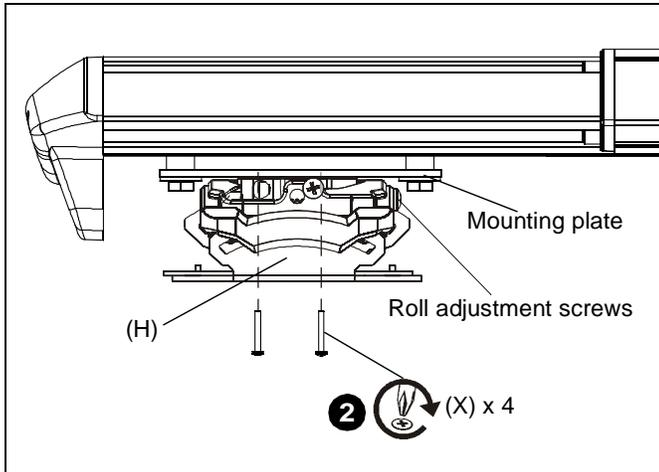

Figure 17
2. Install four #10-24 x 1-3/8" Phillips pan machine screws (X) through projector mount holes and into mounting plate. (See Figure 17)
IMPORTANT ! : If projector mount is NOT installed in the same direction as shown, ROLL adjustment screws will be inaccessible! (See Figure 17)